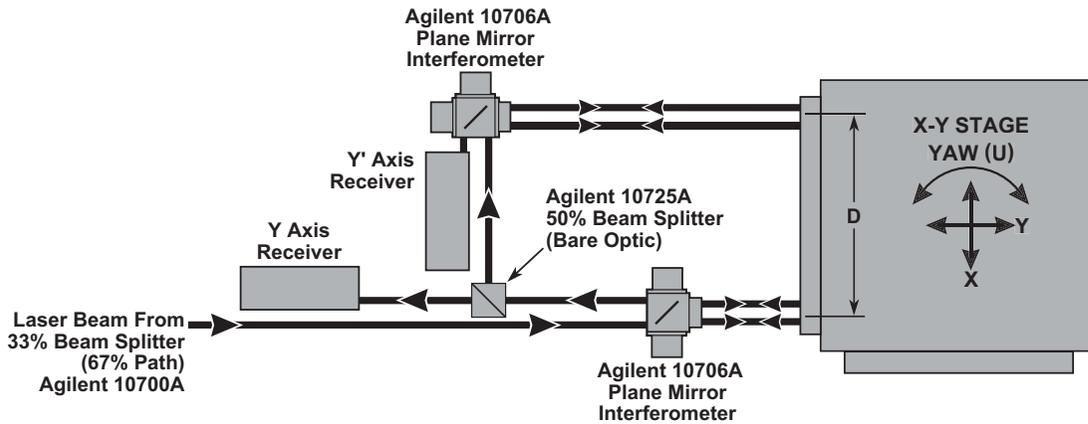

Figure 18 Optical Method for Yaw Measurement
**Optical yaw calculation method** There are optical configurations that will allow direct output of the difference between Y and Y’, for example on the Y’ axis receiver. This is shown in Figures 18 and 19, both using the Agilent 10706A Plane Mirror Interferometer.